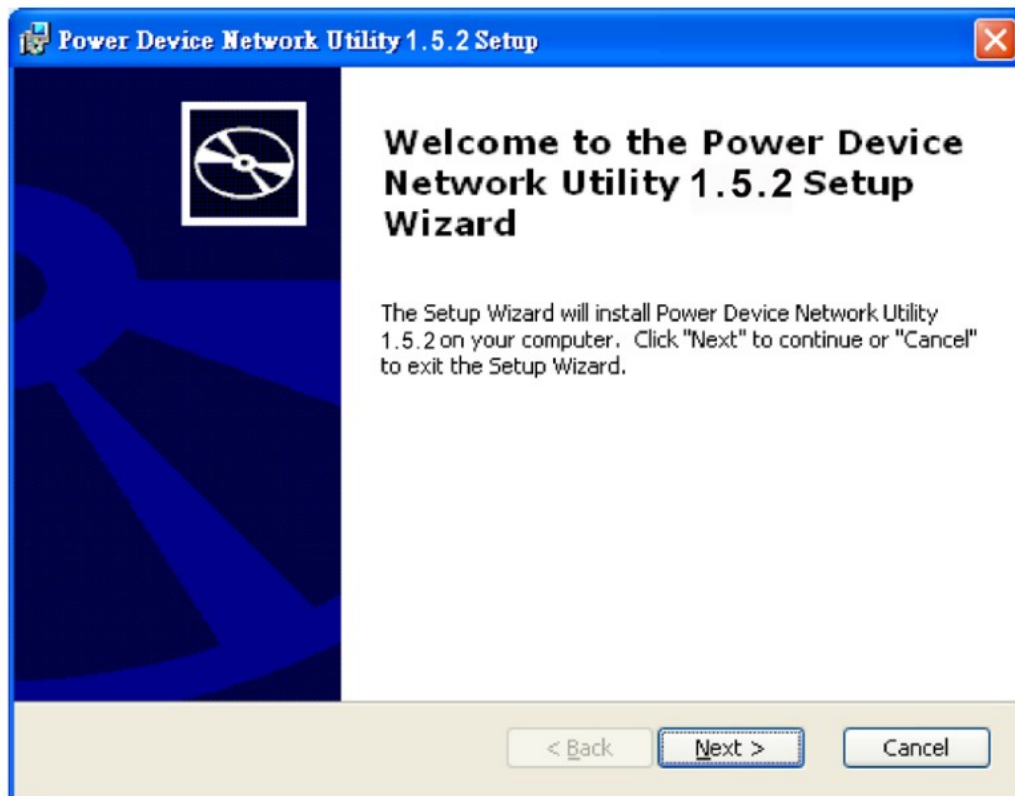

Figure 1
Step 2. Select Next in the software wizard (Shown in Figure 1).